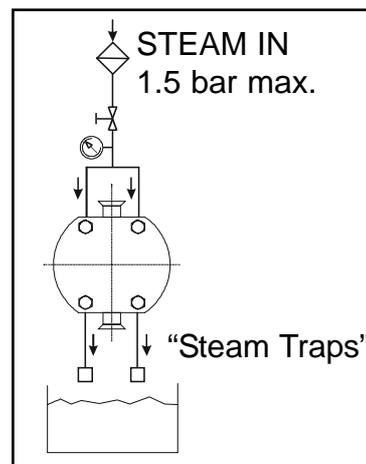

Figure 6: Steam Barrier Flush System For Double Mechanical Seal
- See figure 6 for suggested steam connection.
Steam Barriers: The pressure of steam should be as low as possible consistent with the desired temperature. Steam should be connected in at the highest point on the end cover and out at the lowest point to allow any condensate to drain from the lowest point. (See Figure 6).